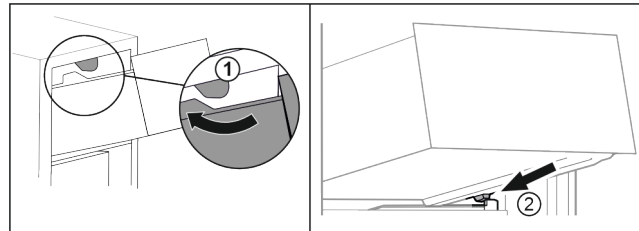

Fig. 93
- ▶ Guide drawer around the upper stoppers. Fig. 93 (1)
- ▶ Place drawer at an angle behind the lower stoppers on the molded rib. Fig. 93 (2)